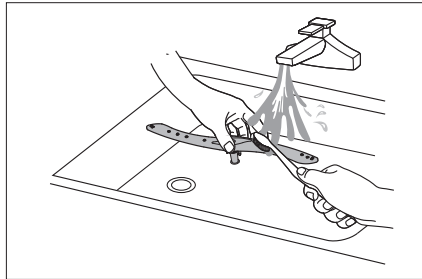

Fig. 23
- ▶ Clean the spray arm (1) under running water and check that the openings are not blocked (see **Fig. 23**). Reinstall it again afterwards.